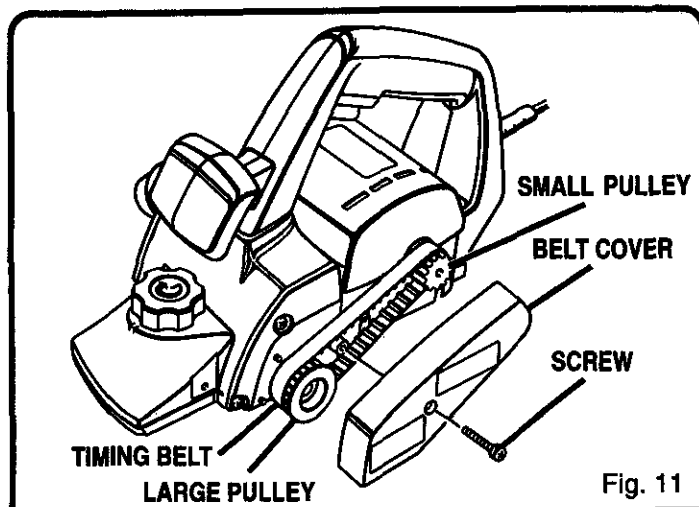

Fig. 11
2. Remove belt cover screw. Then remove the belt cover. See *Figure 11.*